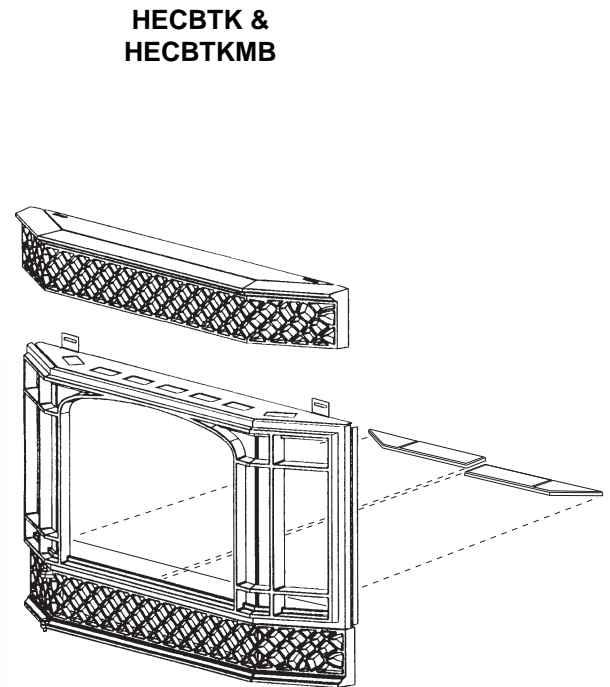

Fig. 19
- 2) Install the two ceramic pieces inside the bay window, as per fig. 19.
- 3) Install the two ceramic pieces inside the bay window, as per Fig. 19.